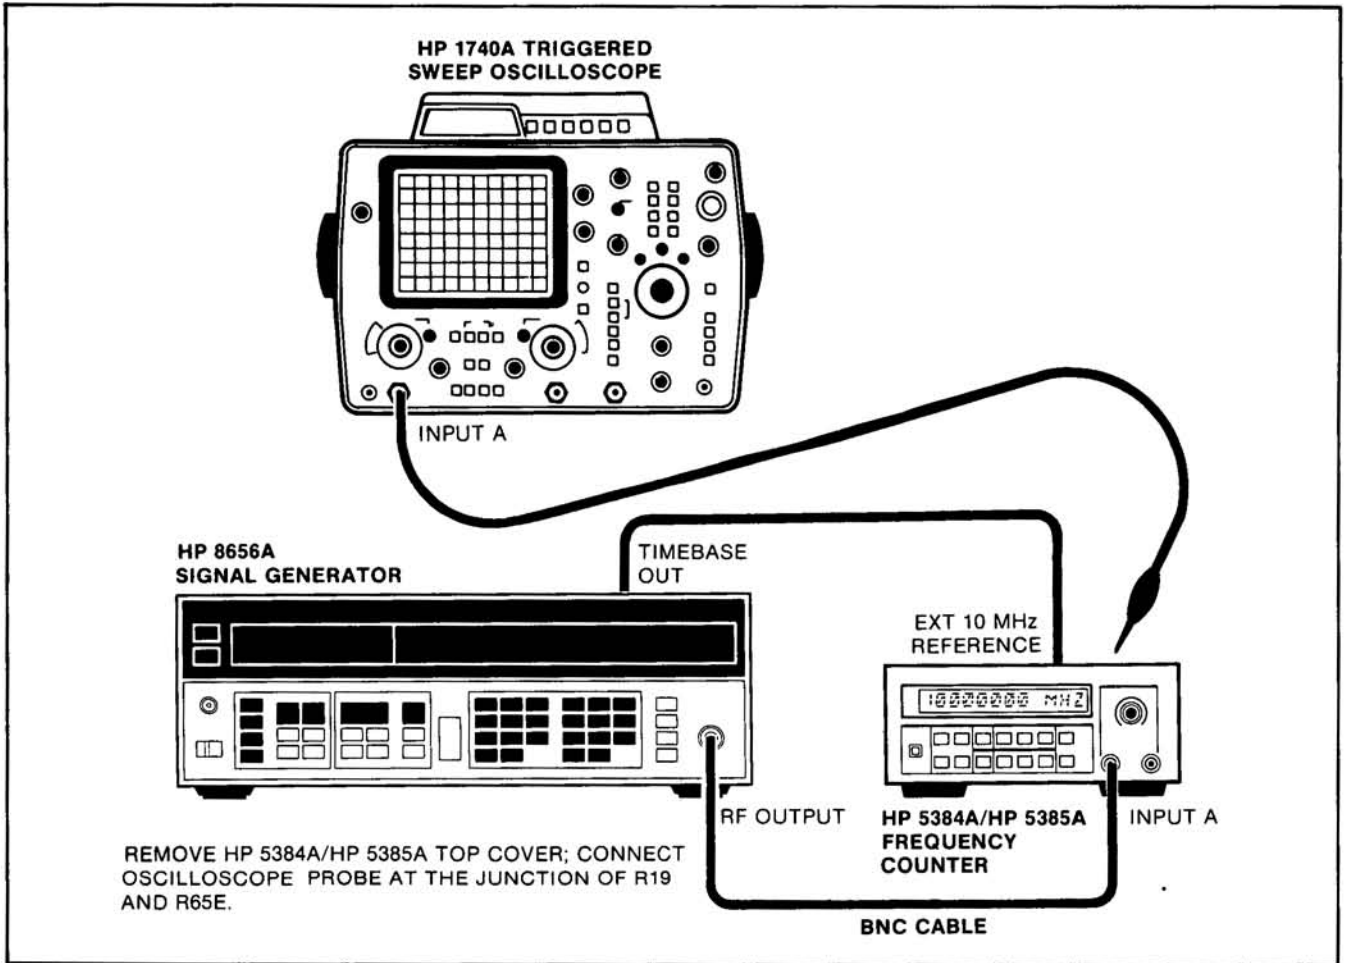

Figure 5-2. Channel A Input Amplifier Adjustment Setup
c. Connect the HP 8656A Signal Generator as shown in *Figure 5-2*.